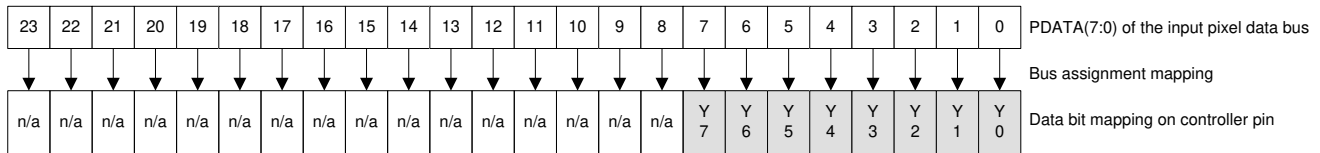

Figure 6-9. BT.656 Interface Mode Bit Mapping
- Calculate clock jitter (in ns) using this formula: $Jitter = [1 / f_{clock} - 5.76 \text{ ns}]$. Clock jitter must maintain setup and hold times. BT.656 data bits must be mapped to the DLPC34xx PDATA bus as shown in Figure 6-9 shows BT.656 bus mode YCbCr 4:2:2 source PDATA (23:0) mapping.
- The BT.656 interface accepts 8-bits per color, 4:2:2 YCbCr data encoded per the industry standard through PDATA(7:0) on the active edge of PCLK. See Figure 6-9.